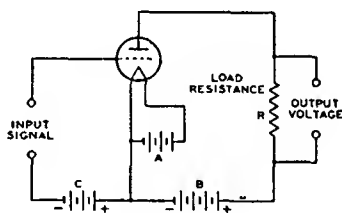

Fig. 13
The plate current flowing through the load resistance (R) of Fig. 13 causes a voltage drop which varies directly with the plate current. The ratio of this voltage variation produced in the load resistance to the input signal voltage is the voltage